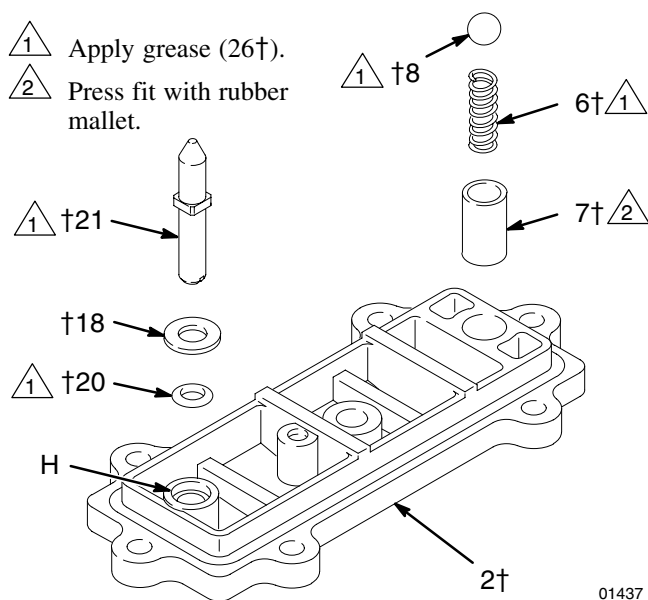

Fig. 12
1. If the detent collar (7) was removed, carefully install a new collar in a new cover (2), using a rubber mallet. See Fig. 12.
2. Grease the spring (6) and place it in the collar (7). Grease the ball (8) and set it on the spring.
3. Grease the o-ring (20) and install it in the hole (H) in the cover (2). See Fig. 12. Slide the washer (18) onto the blunt end of the reset shaft (21). Insert the shaft through the cover (2) until it seats.
4. Grease the spring (3). Place the link stop (4) inside the spring.